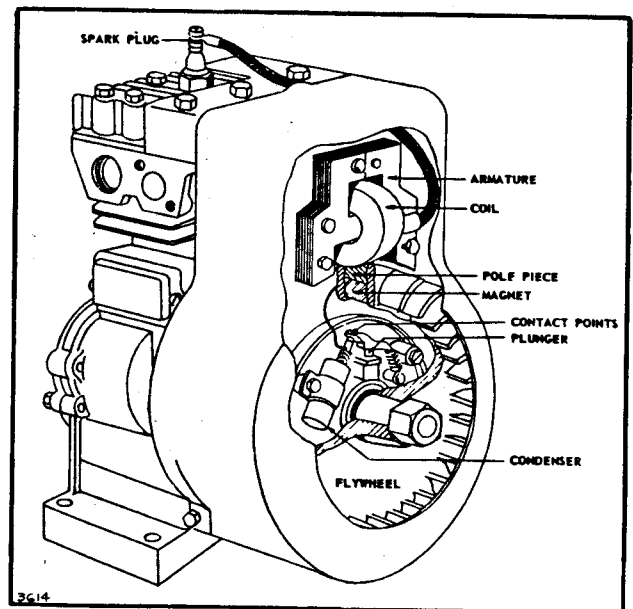

Fig. 3 — Flywheel Ignition Internal Breaker
1. A flywheel type, having either an internal or external breaker system. Fig. 3 and Fig. 20.